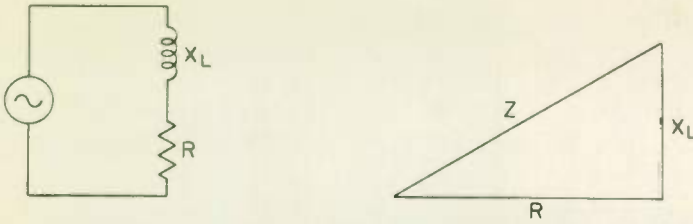

Fig. 2 A series a-c circuit and its representation by a right triangle.
Right triangles find much use in electronics calculations as applied to a-c circuits. A typical circuit with resistance R , reactance X , and impedance Z and its representation by a right triangle are shown in Fig. 2.
4. A series a-c circuit consists of an inductor and a resistor, as shown in Fig. 2. If $X_L = 25$ ohms and $R = 35$ ohms, $Z =$ 43 ohms.